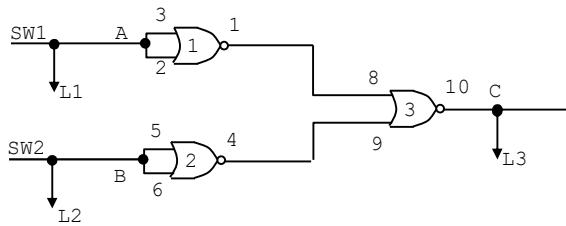
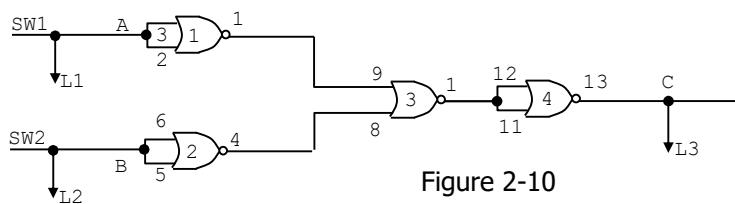

Figure 2-9
Figure 2-10
34. Connect the circuit shown in Figure 2-9. Monitor the inputs and output on LED indicators L1, L2, and L3. With SW1 (A) and SW2 (B), apply the input shown on Table 13. Record the output state corresponding to each set of inputs. Use positive logic.
35. Study Figure 2-9 and Table 13. What logic function is being performed? _____
36. Modify your circuit in Figure 2-9 by adding the fourth gate in the 7402 to the output as shown in Figure 2-10. Only the output change is shown. The rest of the circuit stays as in Figure 2-9.